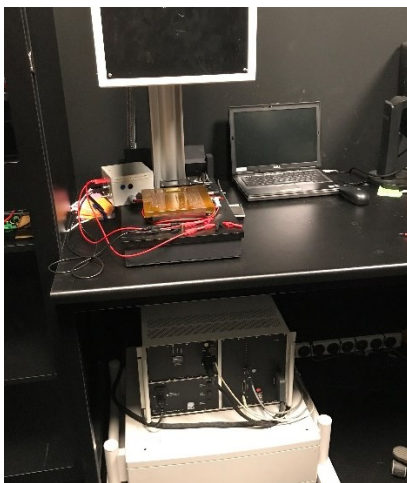

Figure 2: Left) Picture of Pasan cell tester setup. Right) Picture of electronics box with on/off switch circled in red.
2. Turn on the Pasan flasher electronics located under the desk (Figure 2)